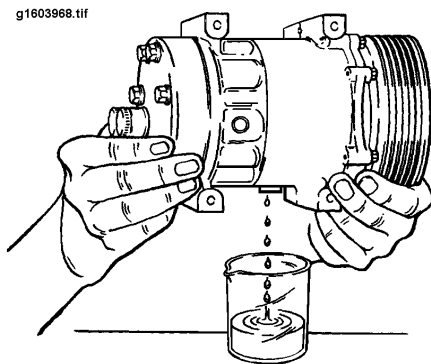

Figure 68 Drain as Much Oil as Possible
3. Remove the oil plug and drain as much oil as possible into a suitable calibrated container (refer to Figure 68).